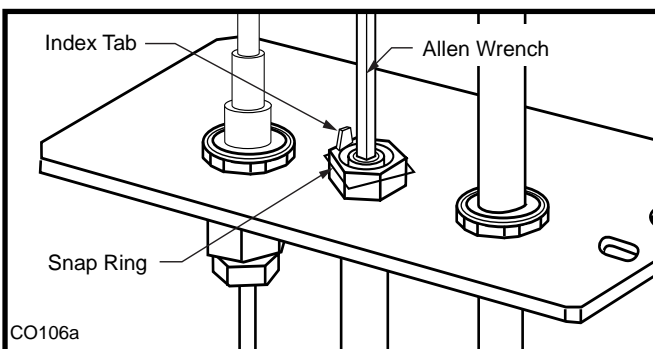

Fig. 62 Remove pilot orifice.
- Remove pilot orifice with allen wrench. (Fig. 62)